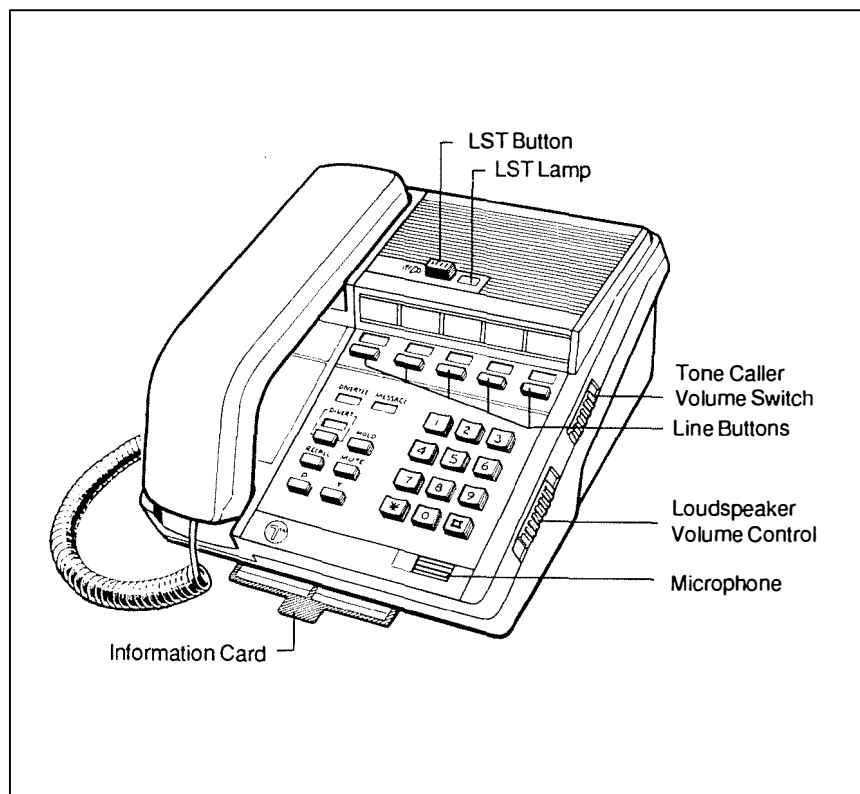

Fig 3.1 TELE 8561
- A green 'Calls Diverted' lamp (LED) beside the DIVERT button glows on the diverting telephone and a green, 'divertee' lamp on the nominated extension telephone glows. (See Fig 3.1.)